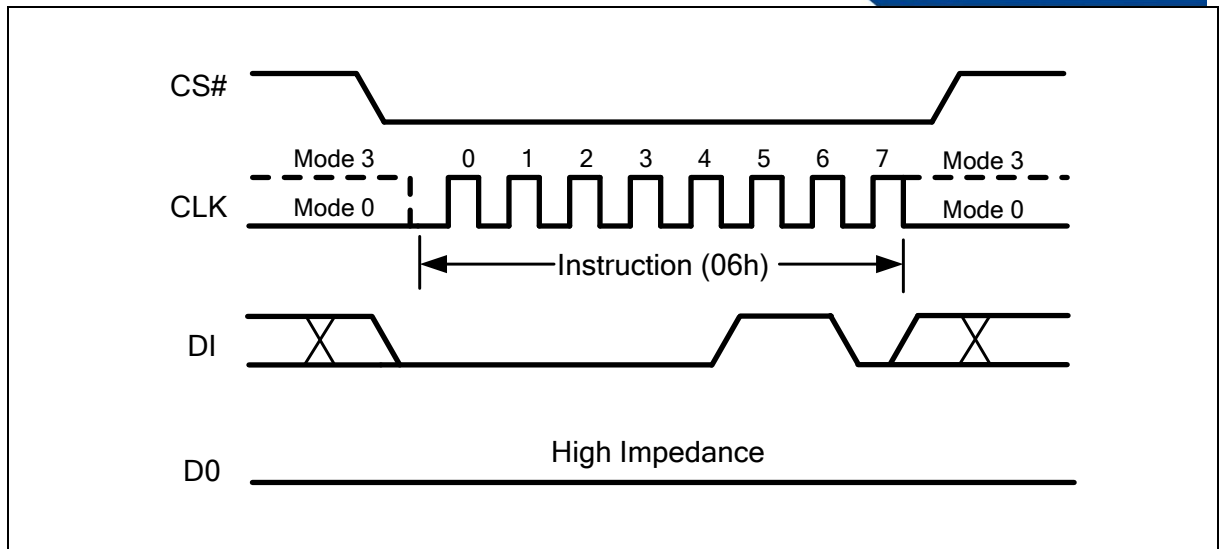
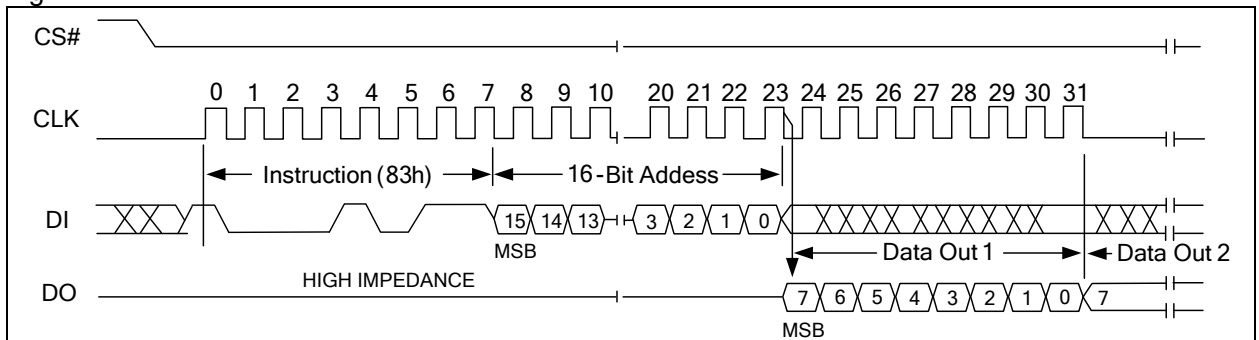

Figure 5 Write Enable Instruction
Figure 15 Read UID Number Sequence
Instructions vary in length from a single byte to several bytes and may be followed by address bytes, data bytes, and in some cases, a combination. Instructions are completed with the rising edge of edge CS#. Clock relative timing diagrams for each instruction are included in Figure 5 through Figure 15. All read instructions can be completed after any clocked bit. However, all instructions that Write must complete on a byte boundary (CS# driven high after a full 8-bits have been clocked) otherwise the instruction will be ignored. This feature further protects the device from inadvertent writes. Additionally, while the memory is being written, or when the Status Register is being written, all instructions except for Read Status Register will be ignored until the write cycle has completed.
The Write Enable (WREN) instruction (Figure 5) sets the Write Enable Latch (WEL) bit in the Status Register to a 1. The WEL bit must be set prior to every Write and Write Status Register instruction. The Write Enable (WREN) instruction is entered by driving CS# low, shifting the instruction code "06h" into the Data Input (DI) pin on the rising edge of CLK, and then driving CS# high.
The Read Unique ID Number instruction accesses a factory-set read-only 128-bit number that is unique to each FM25512 device. The ID number can be used in conjunction with user software methods to help prevent copying or cloning of a system. The Read Unique ID instruction is initiated by driving the CS# pin low and shifting the instruction code “83h” followed by a 16-bit address A15-A0 into the DI pin. Address bit A10A9 must be ‘01b’, upper address bits are don't care, the lower address bits [A3:A0] define the byte address inside the UID. After which, the 128-bit ID is shifted out on the falling edge of CLK as shown in Figure 15. When the end of the 128-bit UID number is reached (16 bytes of data), the data word address will roll-over back to the beginning of the 128-bit UID number. The read UID cycle is terminated by driving CS# pin high.